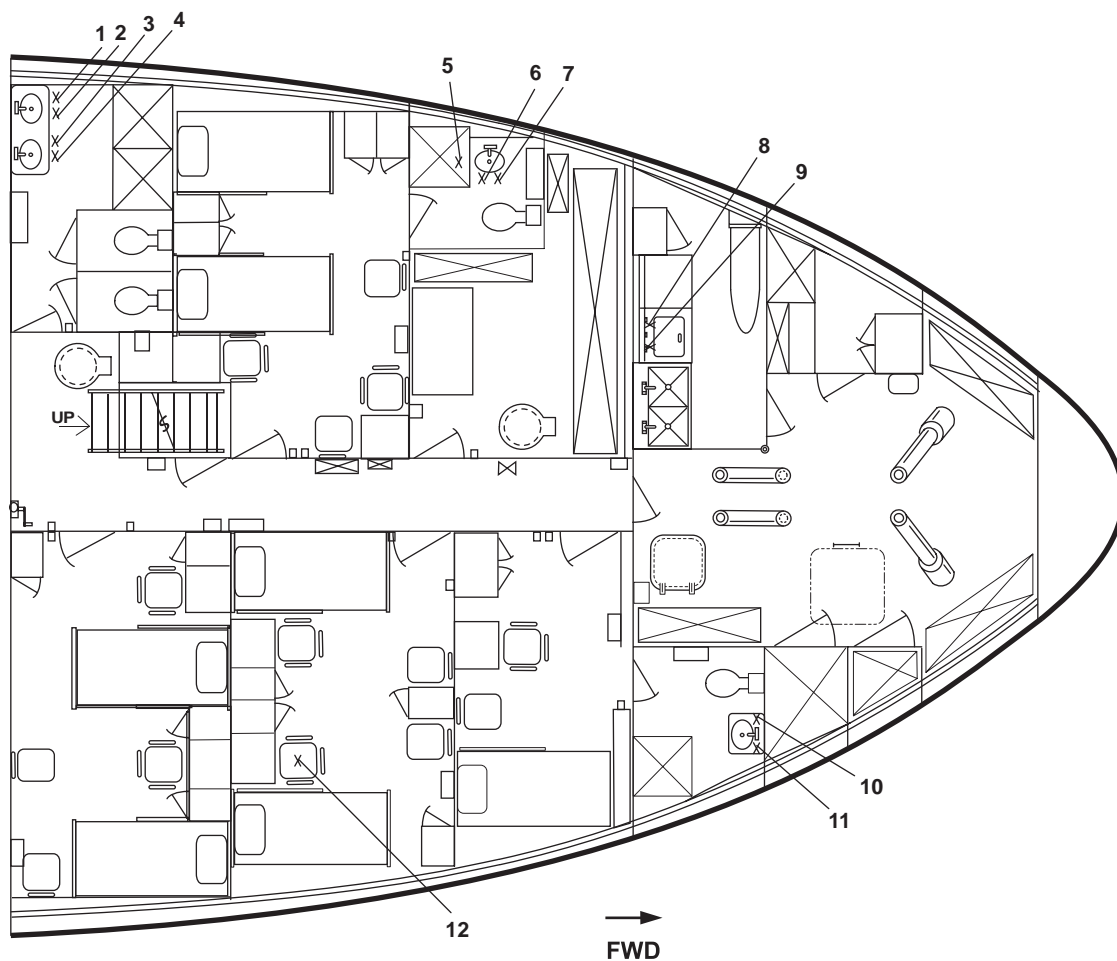

Figure 14. Main Deck Potable Water Valves
- (1) PW-53 (figure 14, item 1), cold potable water to the sanitary space
- (2) PW-52 (figure 14, item 2), hot potable water to the sanitary space
- (3) PW-51 (figure 14, item 3), cold potable water to the sanitary space
- (4) PW-50 (figure 14, item 4), hot potable water to the sanitary space
- (1) PW-24, C.W. TO W.C. (figure 14, item 5) (overhead)
- (2) PW-48 (figure 14, item 6), hot potable water to the sanitary space
- (3) PW-49 (figure 14, item 7), cold potable water to the sanitary space
- (1) PW-30 (figure 14, item 8), hot potable water to the sanitary space
- (2) PW-31 (figure 14, item 9), cold potable water to the sanitary space
- (1) PW-46 (figure 14, item 10), hot potable water to the sanitary space
- (2) PW-47 (figure 14, item 11), cold potable water to the sanitary space
- k. In crew's stateroom #2: PW-23, C.W. TO W.C. (figure 14, item 12)